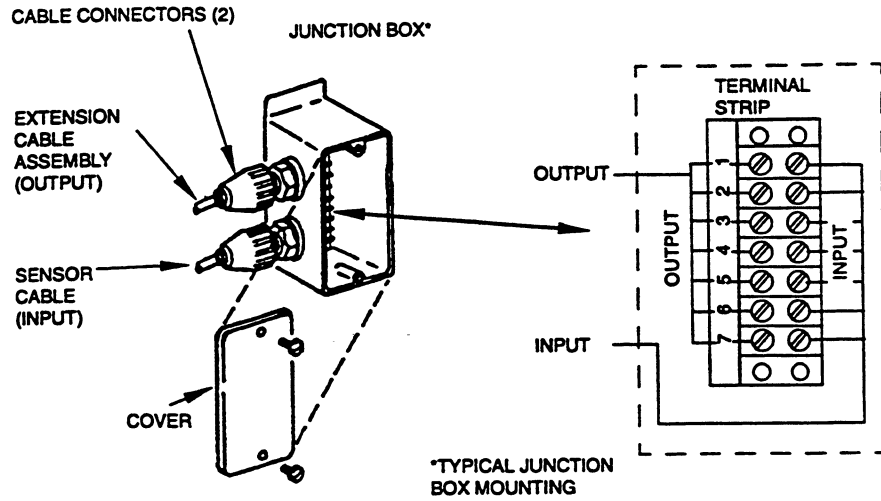

Figure 14. Junction Box Wiring
1. Remove the junction box cover and loosen the cable connectors (see Figure 14).